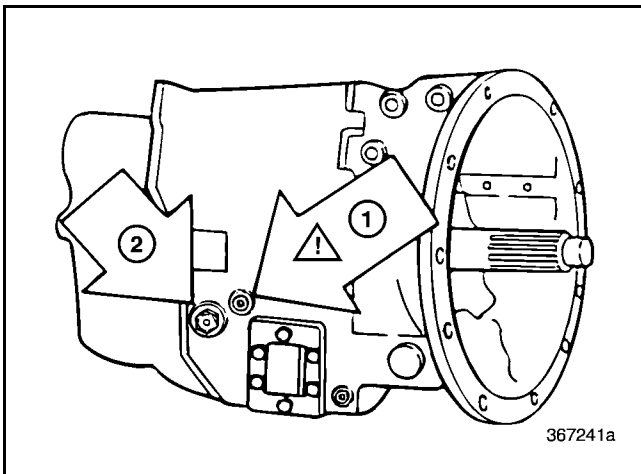

Figure 21 — Oil Filler and Check Plug
- Reinstall and tighten the oil filler plug (Figure 21) as follows: